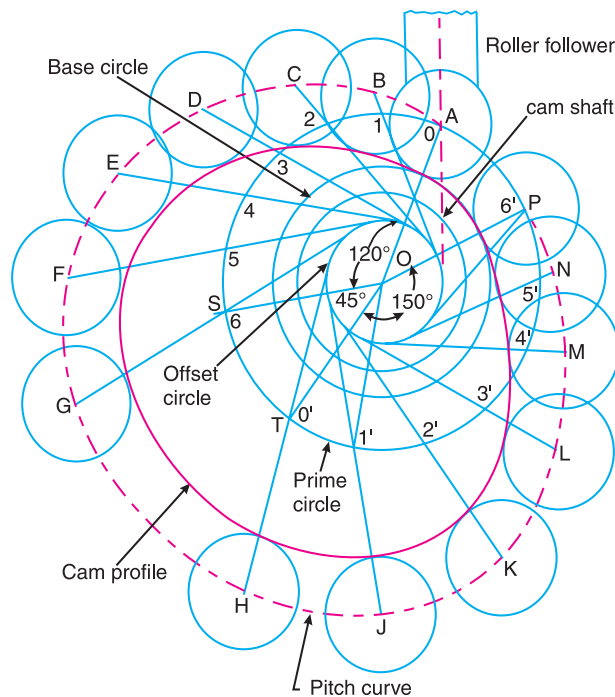

Fig. 20.32
Now the profile of the cam, when the line of stroke of the follower is off-set 12.5 mm from the centre of the cam, as shown in Fig. 20.32, is drawn as discussed in the following steps :
11. Join the bottoms of the circles with a smooth curve as shown in Fig. 20.32. This is the required profile of the cam.